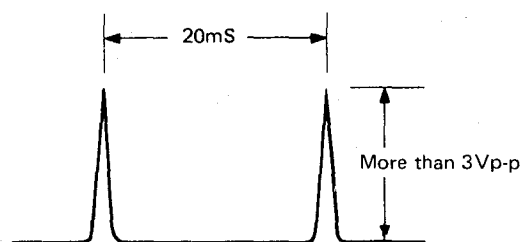

Figure 77.
2. Observe the output of TP-701 on oscilloscope (internal trigger), and check its values are as shown in Fig. 77.